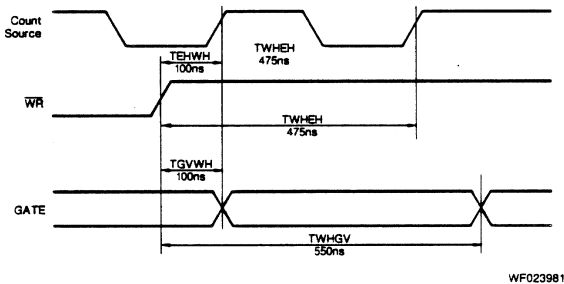

Figure A3. TEHWH/TGVWH Timing Diagram
- 10) Timing parameters TEHWH and TGVVH are specified as negative. The diagrams in Figure A3 show the relationship between these signals.